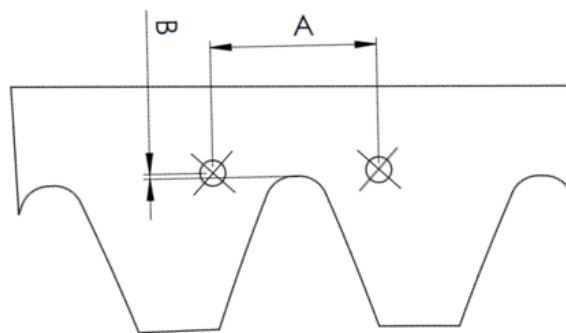

Figure 3: Bearing holes to install MiCRoLuBGeaR
Prior to MiCRoLuBGeaR installation two threaded holes should be done on the gear. The distance between holes (A) depends on the gear module and it is summarized in Table 1. Depending on the dedendum teeth correction, the position of the holes (B) relative to the root of the tooth should be adapted to each gear geometry as shown Figure 3.